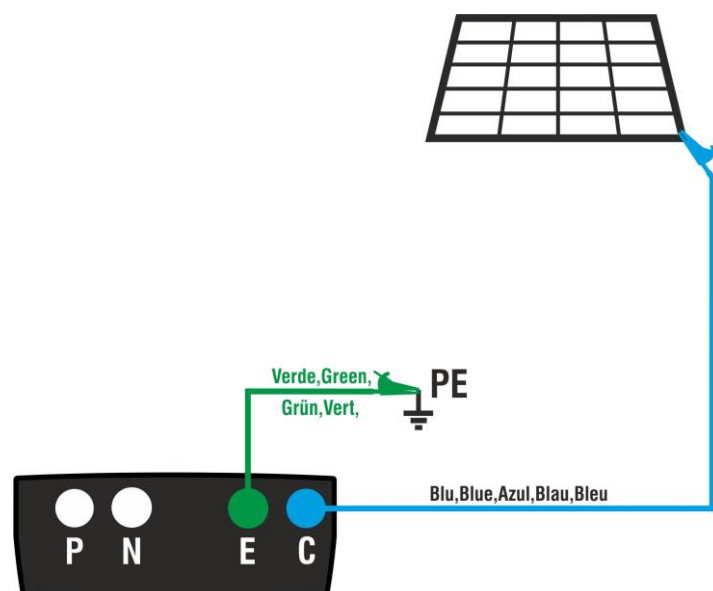

Fig. 6: Connection of instrument for continuity measurement on structures of the PV installation
5. Connect the instrument to the PV module/string being tested and to the main earth node of the system as shown in Fig. 6.
- Connect the instrument to the PV module/string being tested and to the main earth node of the system as shown in Fig. 6.